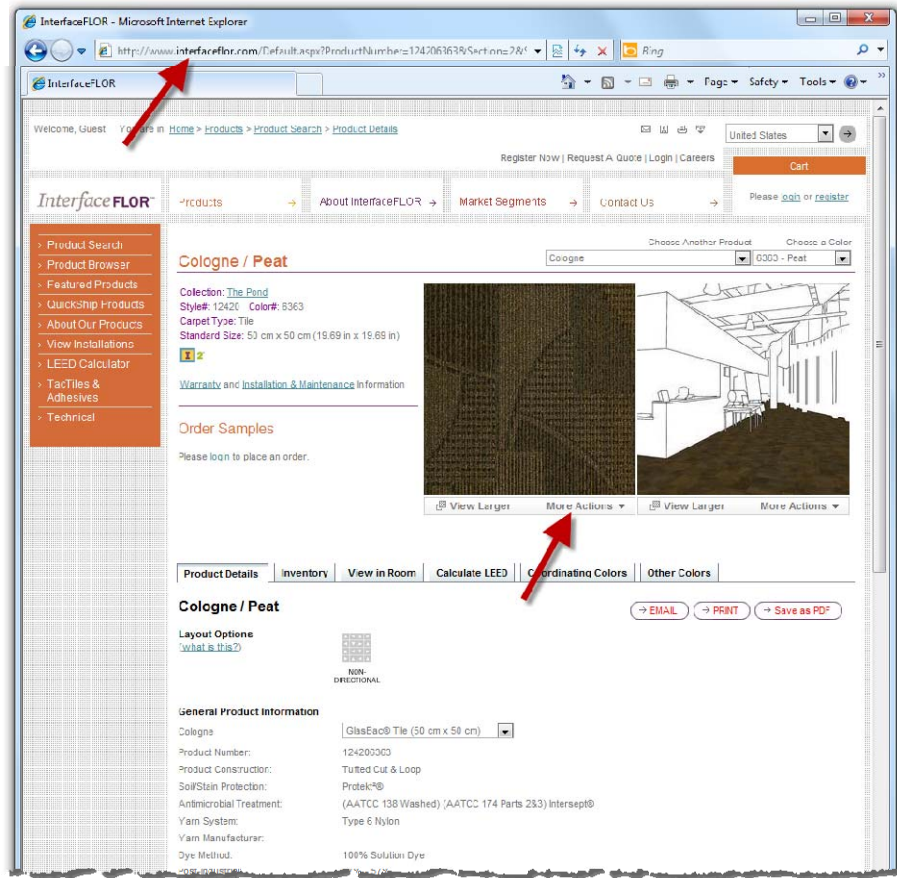

FIGURE 4-3.7 InterfaceFLOR website - specific product page
You now have access to all the information you need to define the Revit *Material* (Figure 4-3.7).
15. Under the preview image, click **More Actions** → **Save Image** (Figure 4-3.7).